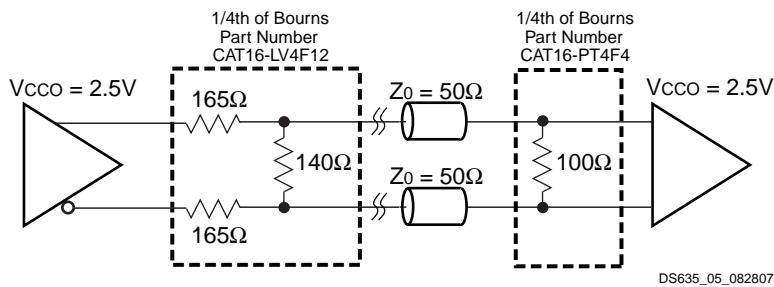

Figure 5: External Termination Resistors for BLVDS I/Os
2. Output voltage measurements for all differential standards are made with a termination resistor (RT) of 100Ω across the N and P pins of the differential signal pair. The exception is for BLVDS, shown in Figure 5 below.